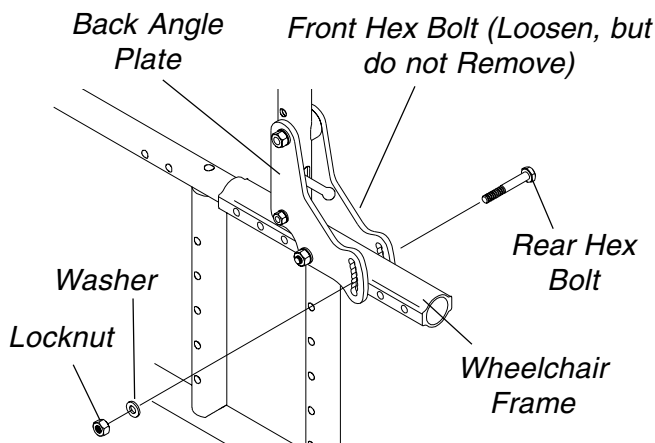

FIGURE 15 - CHANGING THE BACK ANGLE
1. Loosen, but do not remove the front hex bolt that secures the back angle plate to the wheelchair frame (FIGURE 15).
2. Remove the rear hex bolt, washer and locknut that secure the back angle plates to the wheelchair frame (FIGURE 15).
4. Reinstall the rear hex bolt, washer and securely tighten with locknut. Refer to FIGURE 15 for correct hardware orientation.